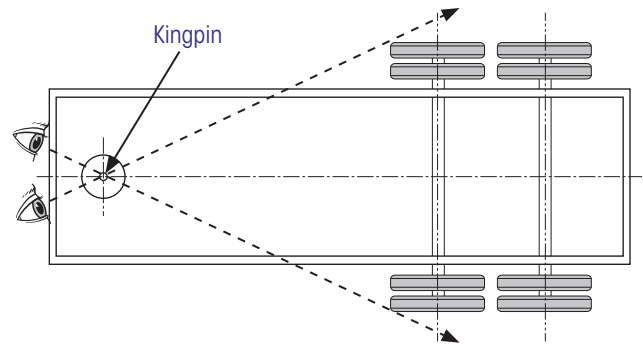

Figure 17: Checking for measurement obstructions
1. From a position at the front of the trailer (Figure 17), **sight** along a line under the trailer from the kingpin to each end of the front axle.